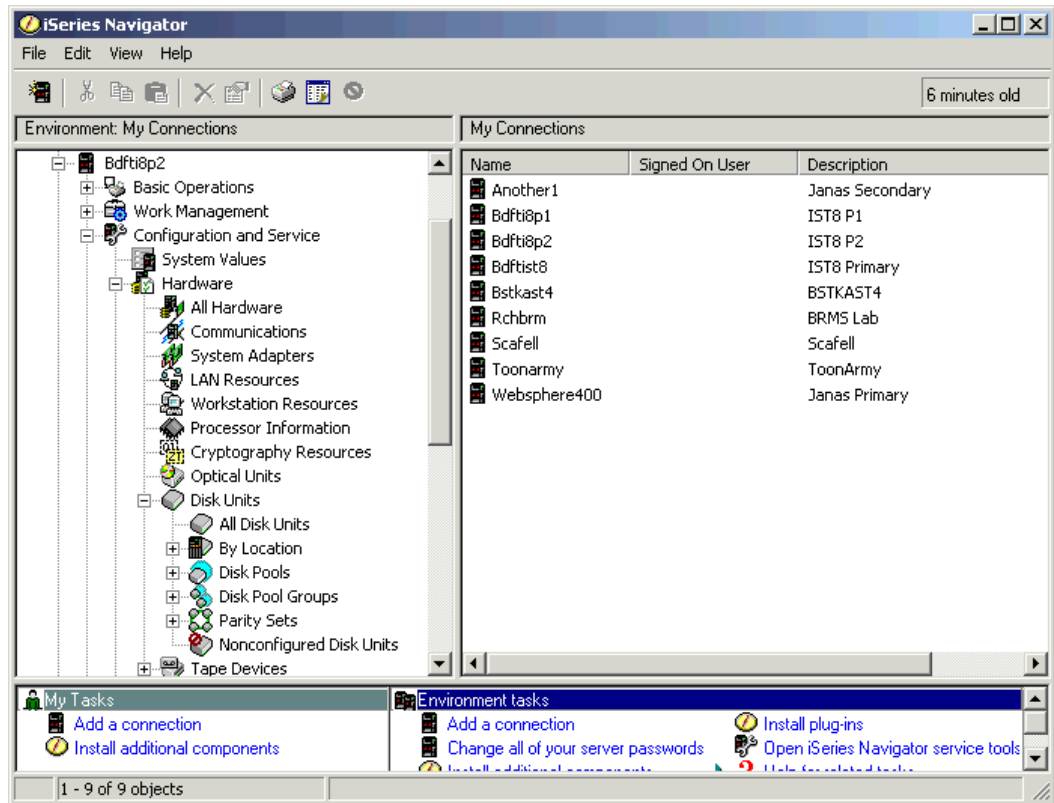

Figure 18-8 System i Navigator Disk Units
- Expand **Configuration and Service**, **Hardware**, and **Disk Units** as shown in Figure 18-8.